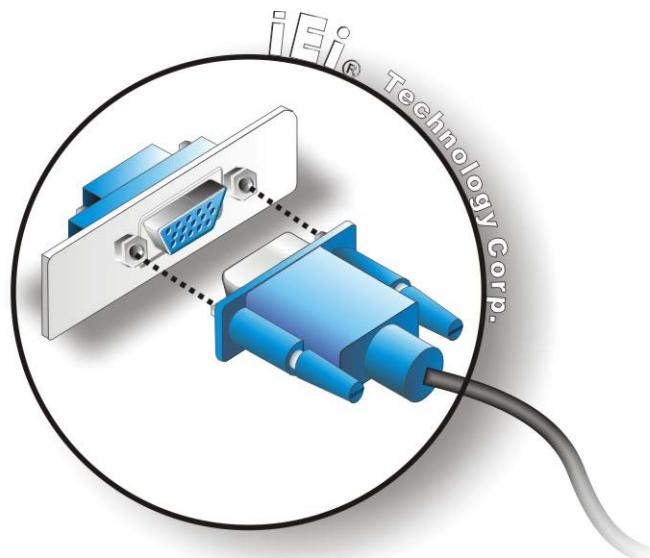

Figure 4-17: VGA Connector
Step 3: Insert the VGA connector Once the connectors are properly aligned with the insert the male connector from the VGA screen into the female connector on the IMBA-C604EN. See Figure 4-17.